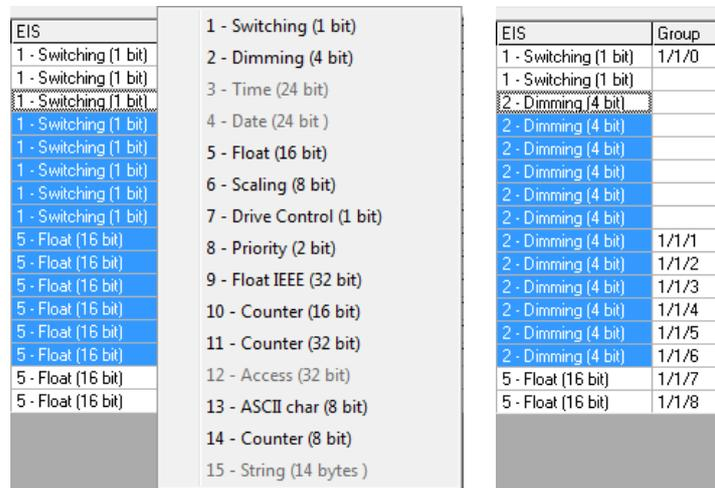

Figure 7.3 Multiple value selection
3. A contextual menu with the possible values will show up (Figure 7.3).